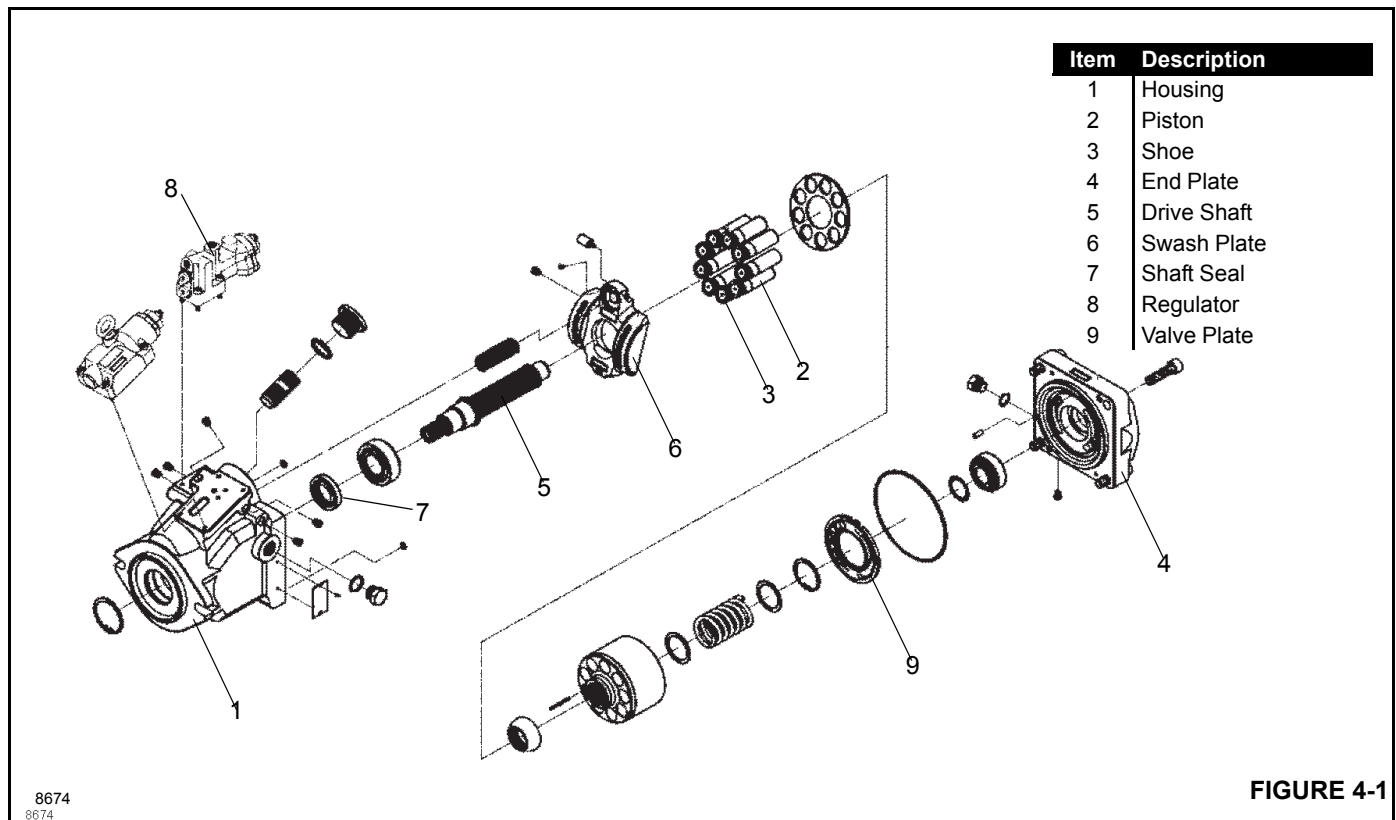

FIGURE 4-1
The pump basically consists of the housing (1, Figure 4-1), piston (2), shoes (3), end plate (4), drive shaft (5), swash plate (6), shaft seal (7), regulator (8) and valve plate (9).
When the system pressure falls below the compensator spring setting, spring force returns the spool back to the normal position, which drains the control piston (2, Figure 4-1) to the pump case drain. This causes the pump to de-stroke, reducing the fluid flow to the level required.